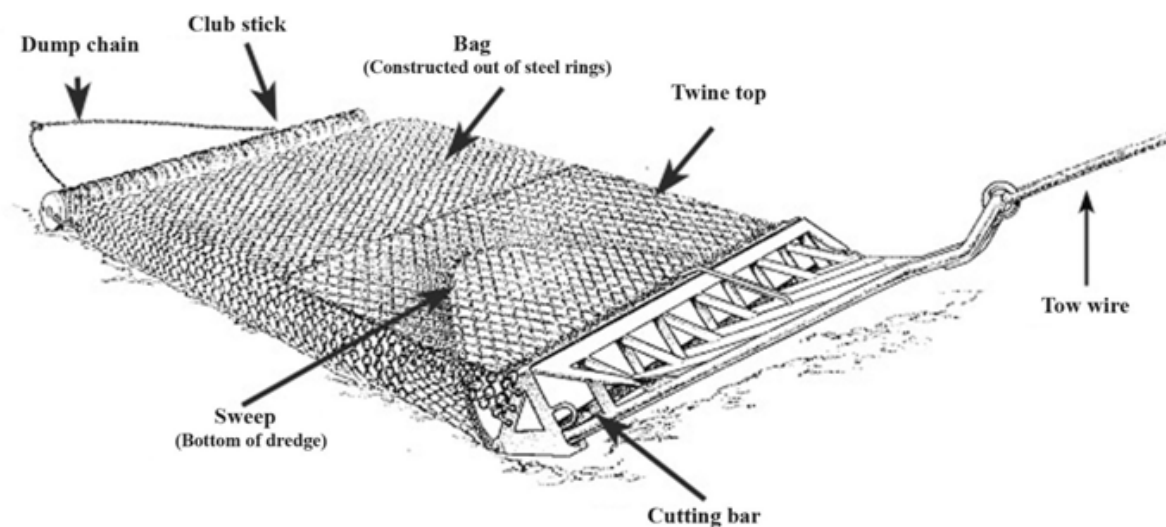

Figure 37. New Bedford style scallop dredge.
*Scallop Dredge:* A frame that is towed by a vessel to collect sea scallops on the ocean floor (see FIGURE 37). A cutting bar is on the bottom of the dredge frame, and a chain bag for scallop collection is on the top. A club stick is attached to the end of the chain bag. There are two main types of dredge frames; Standard and Turtle Deflector Dredge.